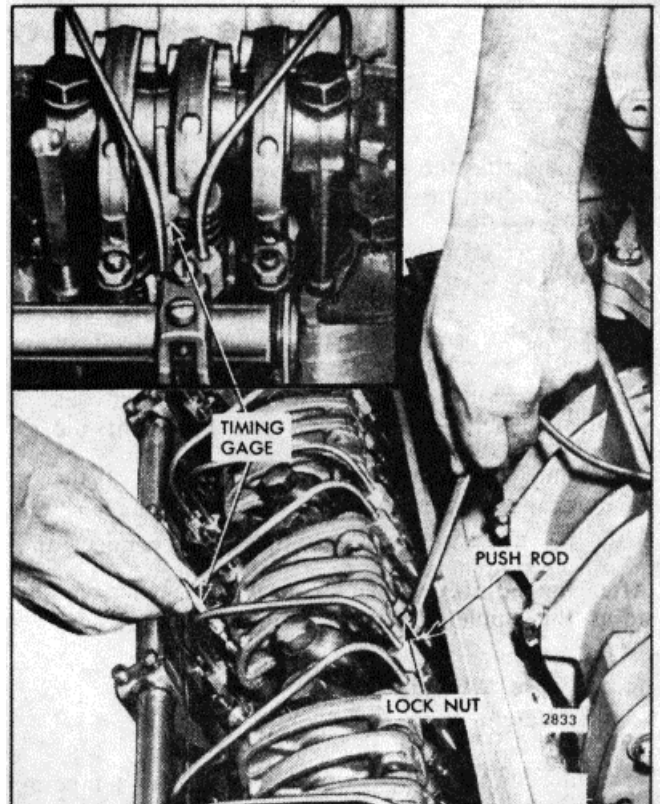

Fig. 4. - Timing Fuel Injector
3. Place the small end of the injector timing gage in the hole provided in the top of the injector body, with the flat of the gage toward the injector follower (Fig. 4).